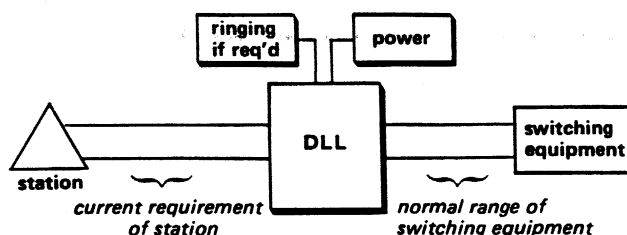

figure 3. Single DLL range limits
2.09 When a single 7002(A) is used (see figure 3), the maximum distance from the station to the 7002(A) depends upon the current requirements of the station. The maximum distance from the 7002(A) to the switching equipment depends upon the range of the switching equipment.